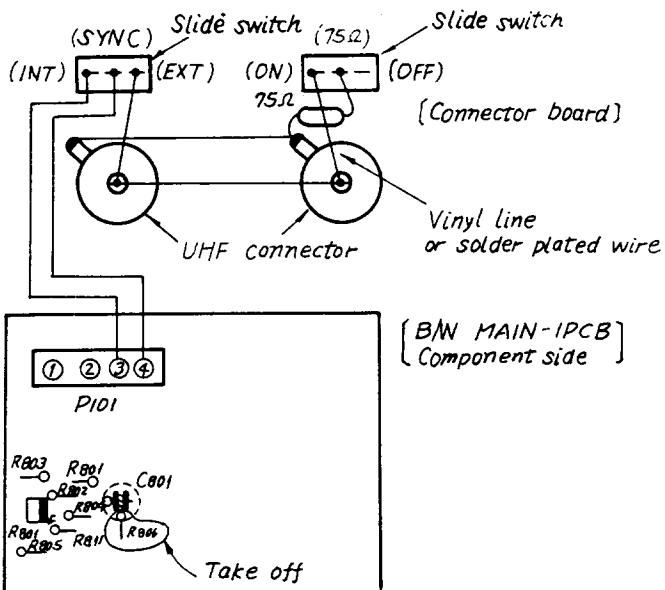

Fig. 7
- Make connection as illustrated in Fig. 7.